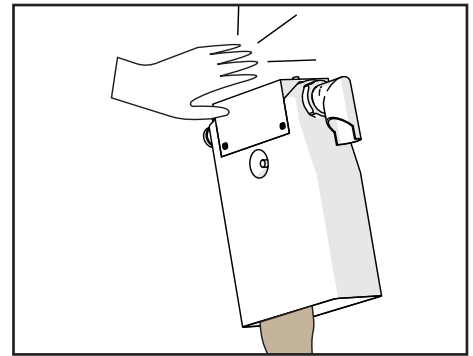

Figure 81. Empty instant canister
1. Empty the canisters (see Figure 81).